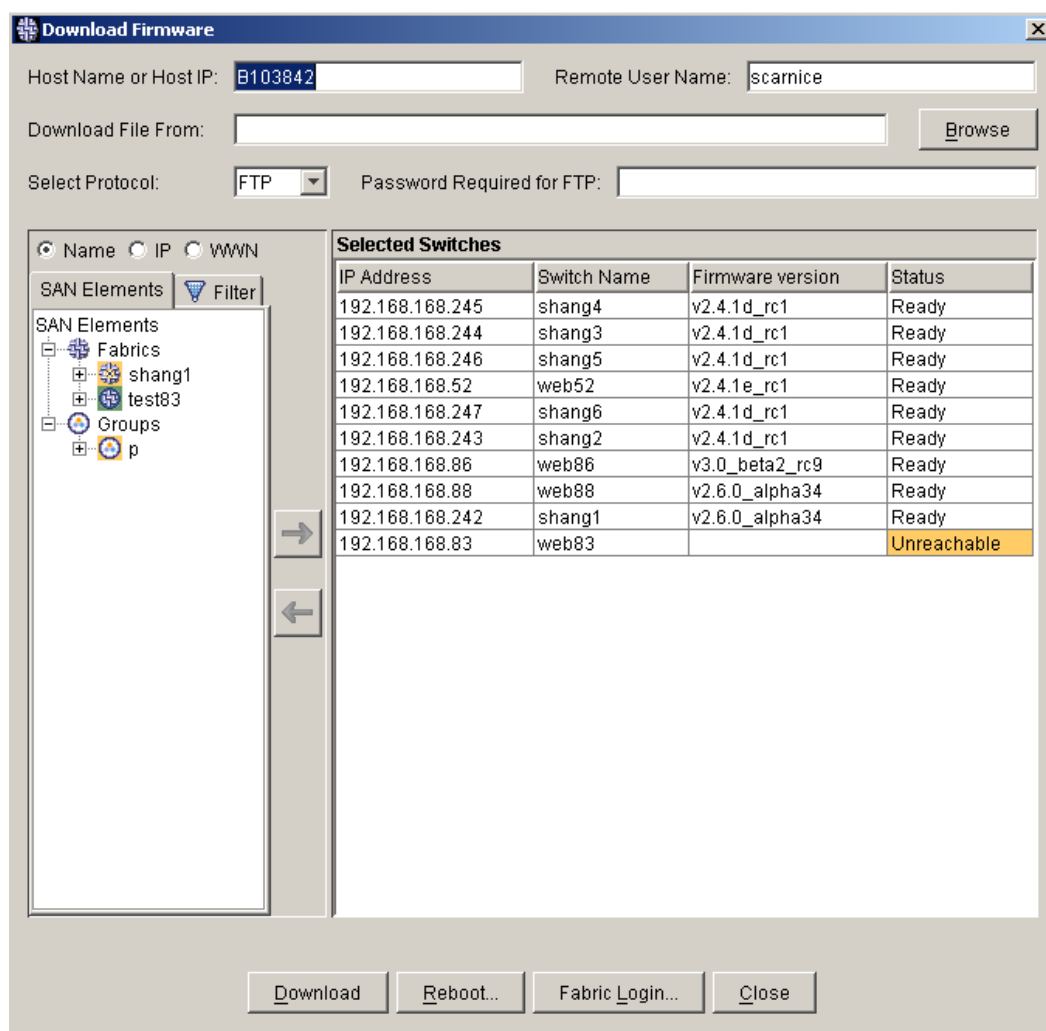

Figure 9-9 Download Firmware Window
- Select the Login Setup button from the Firmware Download dialog box, as shown in Figure 9-9 on page 9-7.
When the Download Firmware icon is selected, the Download Firmware window appears, as shown in Figure 9-9.
Use the Download Firmware window to upgrade the firmware of multiple switches simultaneously. The Download Firmware window is shown in Figure 9-9.